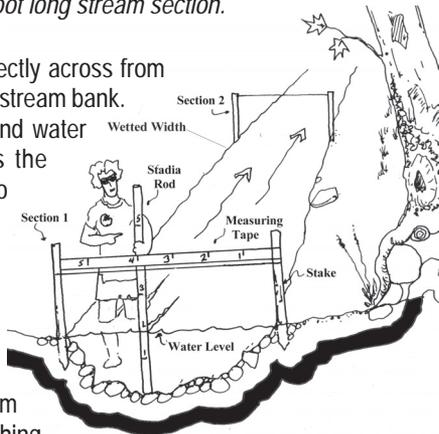
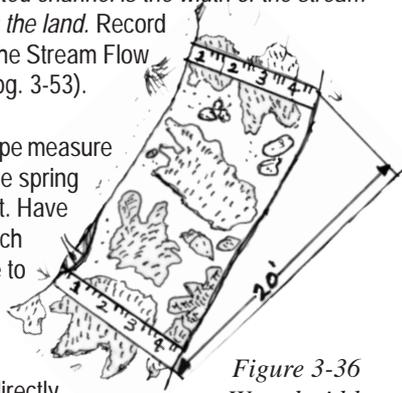
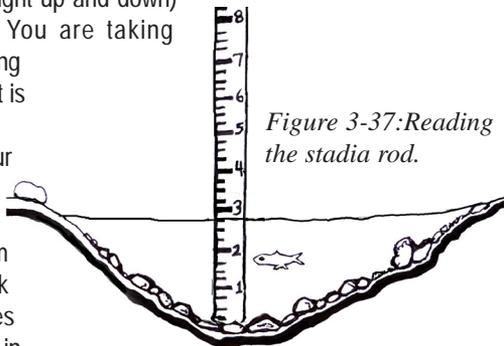

Figure 3-35:
Figure 3-36
Figure 3-37: Reading the stadia rod.
To measure velocity, a float (orange peel) will be used to determine how fast the water is flowing. To calculate the cross sectional area of the stream, a stadia rod (vertical measuring stick) will be used to measure water depth at 1-foot intervals across the width of the stream (Figure 3-35).
The wetted edge is where the land and water meet. Stretch the string line across the stream and securely attach it to the two stakes. The string line should be stretched across the stream at a 90 degree angle. (Figure 3-35).
4. Repeat step 2 on the right stream bank and attach the string line on the downstream stakes. You should have 2 sets of stakes and string lines stretched across the stream, 20 feet apart (Figure 3-35).
5. Using the string line as your guide, measure the wetted stream channel across the upstream set of stakes. Hold the tape measure as close to the surface of the stream as possible and make sure the tape is stretched tightly (Figure 3-36). *The wetted channel is the width of the stream where the water just touches the land.* Record this information at the top of the Stream Flow Field Sheet (Figure 3-37 on pg. 3-53).
The team is measuring at the four foot mark on the tape measure in (Figure 3-35). The stadia rod touches the top of the stream water at the 2.75 inch mark (Figure 3-36). Record 2.75 inches on the Stream Flow Field Sheet in the box directly beside the # 4 box.